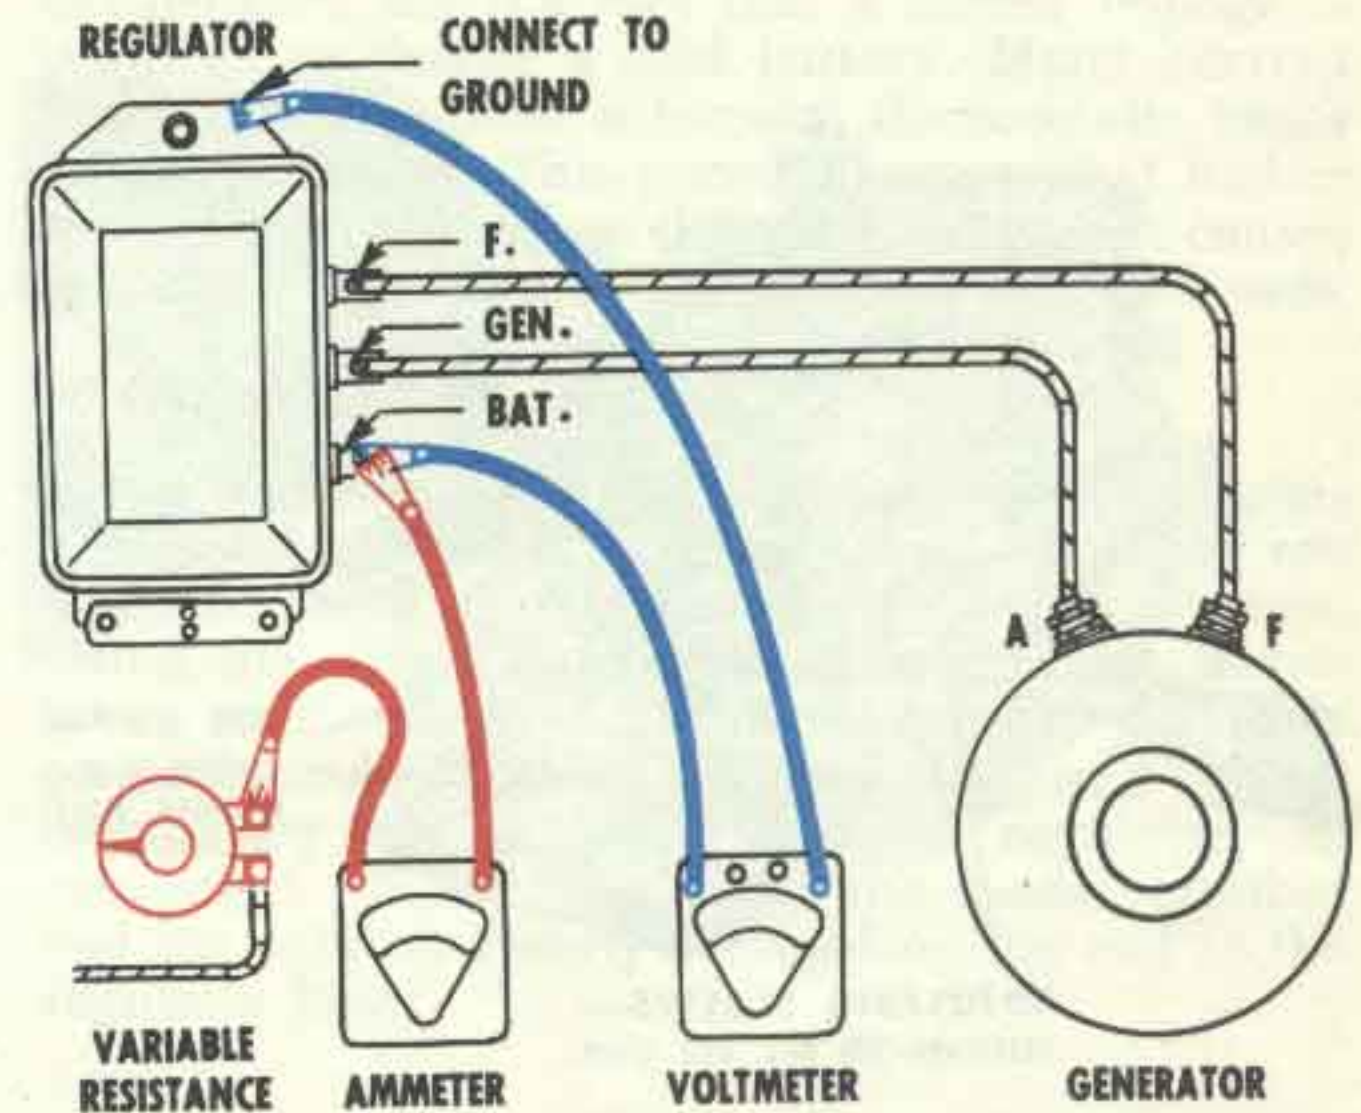

Figure 7—Variable resistance method meter connections for checking voltage regulator settings.
1. Connect a variable resistance (not less than 25 watts) and an ammeter into the charging circuit (in series with battery) at "BAT" terminal of regulator as in Figure 7.
2. Connect a voltmeter from regulator "BAT" terminal to ground (Fig. 7).